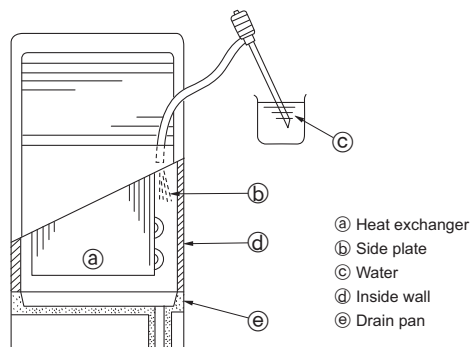

Fig. 5-2
5.2. Drainage check (Fig. 5-2)